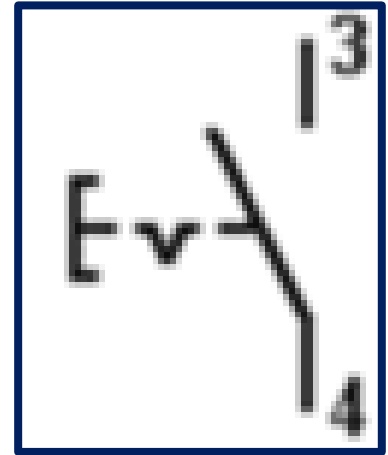

Figure 2.5 : latching switch
- There are several operating method of the switch such as a pushbutton, rocker or rotary switch. In Figure 2.5 shows a symbol of a switch in the form of a normally open contact of the pushbutton.